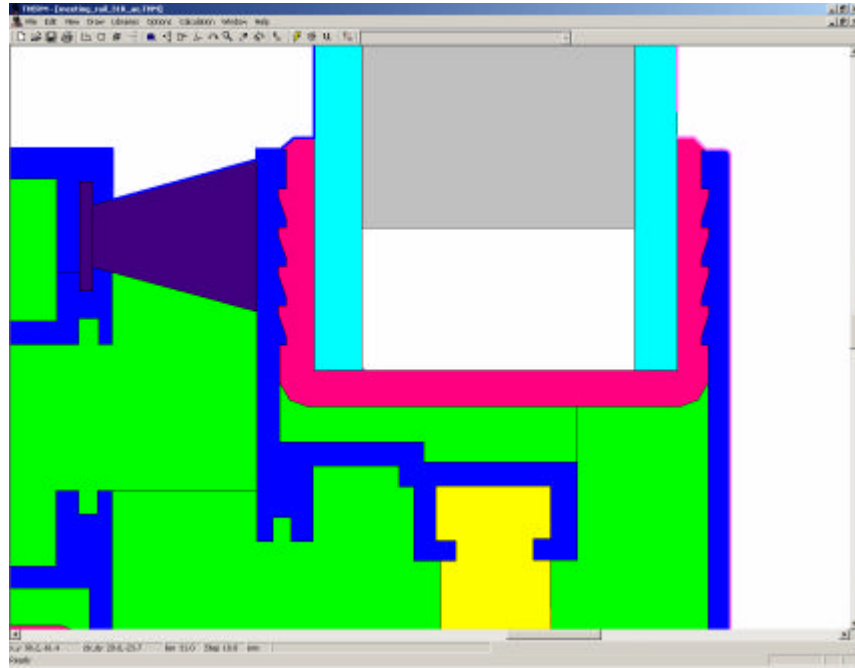

Figure 4-2: Spacer void in glazing system ready for spacer insertion
- Draw locator in the **upper left corner** (for the glazing system facing Up) of the spacer void (see Figure 4-2) and simply press insert button on the Spacer Library main screen.